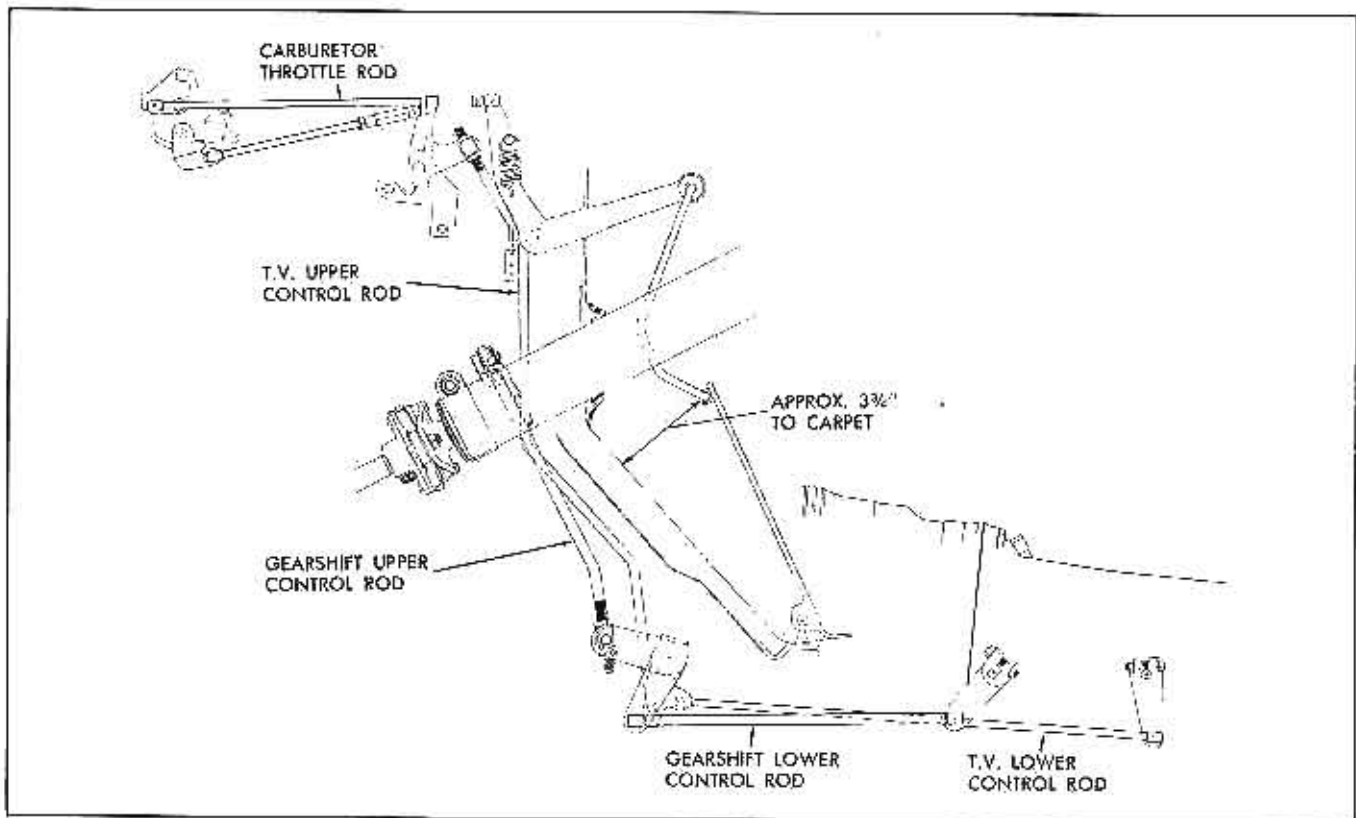

Fig. 36 Accelerator Linkage
9. Adjust carburetor throttle rod to obtain 4.55" clearance from underside of attaching boss on pedal to body toe pen as shown in Fig. 36 (approx.  $3\frac{3}{4}$ " to carpet).